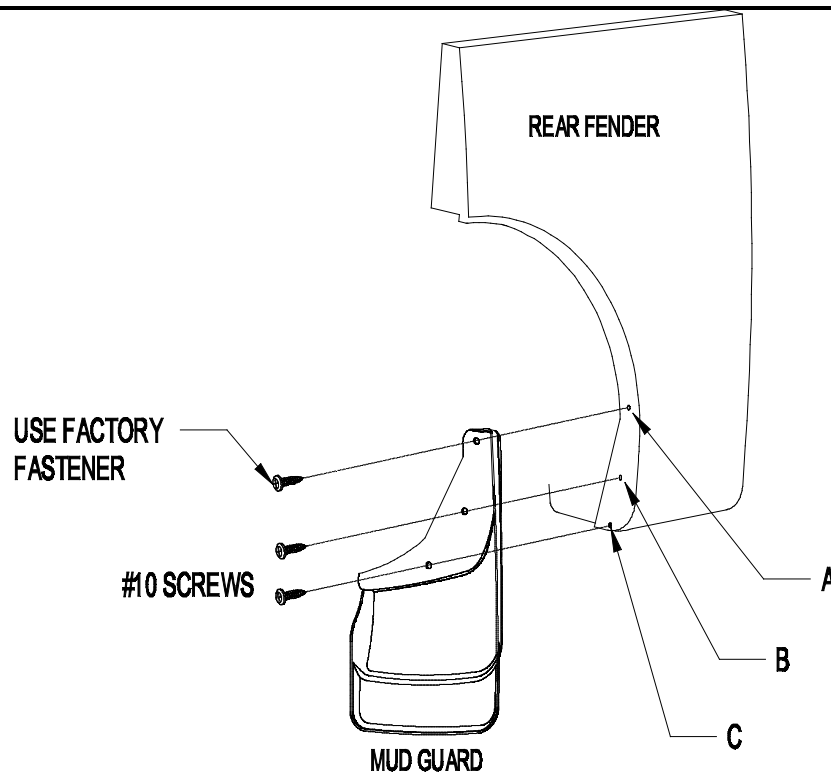

Figure 1
2. Using a Wrench, remove existing fastener from location A (see figure 1) (fastener type varies from vehicle to vehicle).